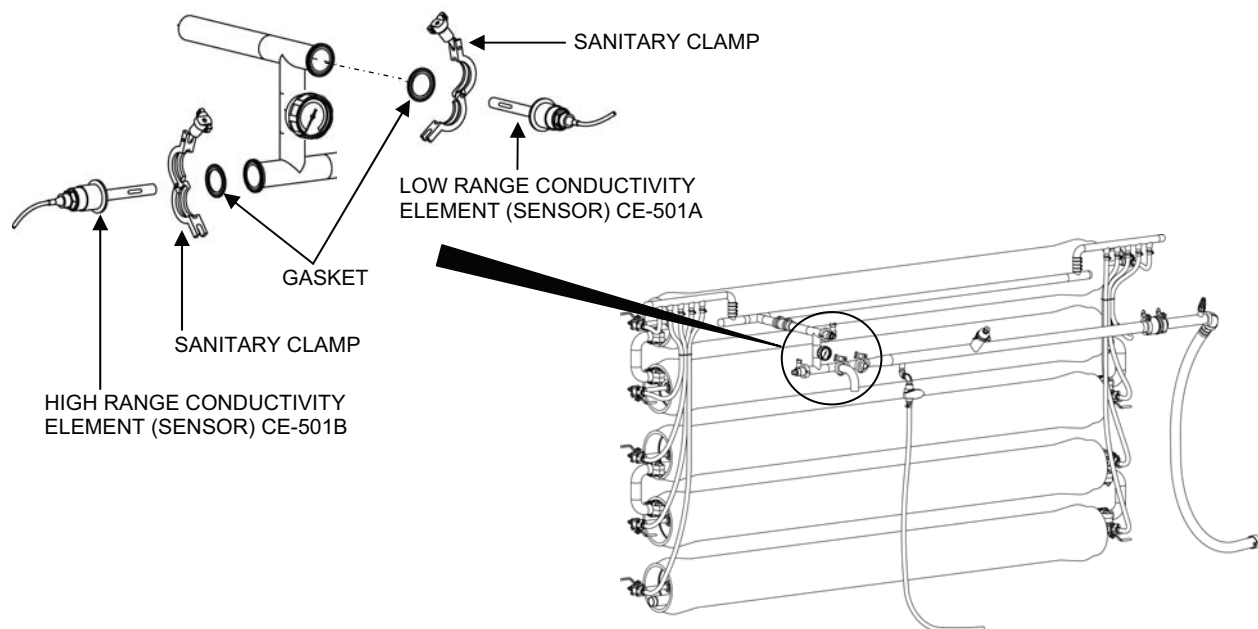

Figure 8. Conductivity Sensors Location.
- a. Remove the sanitary clamp and gasket that secure the sensor in the process pipe and pull the sensor out of the pipe (see Figure 8 for the location of the conductivity sensors).